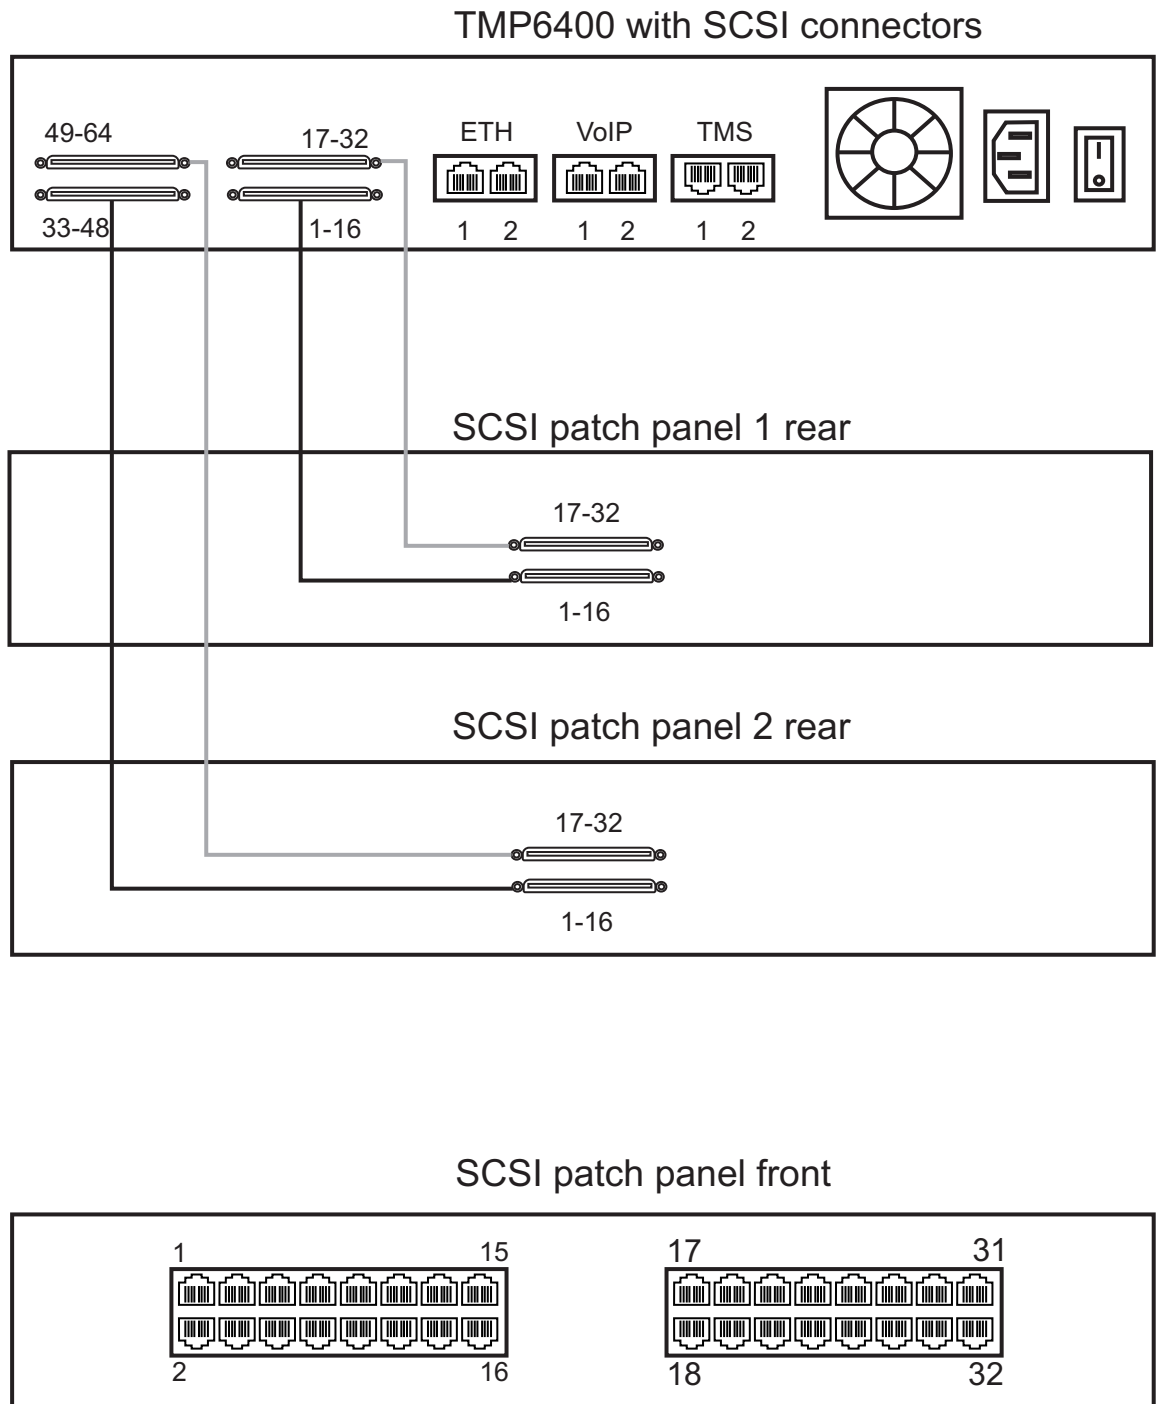

Figure 2.9 SCSI Interface to the PSTN
A TMP6400 with 4 SCSI connectors enables the connection to T1/E1/J1 lines. The termination impedance is set at 120 ohms. It is possible to connect an external balun in order to convert to 75 ohms. See figure 2.9 on page 20
1. Start with the SCSI ports 1-16 located at the bottom right as shown in figure 2.9 on page 20. Connect one SCSI cable between this port and SCSI patch panel number 1, ports 1-16. Connect SCSI ports 17-32 to patch panel number 1, ports 17-32.